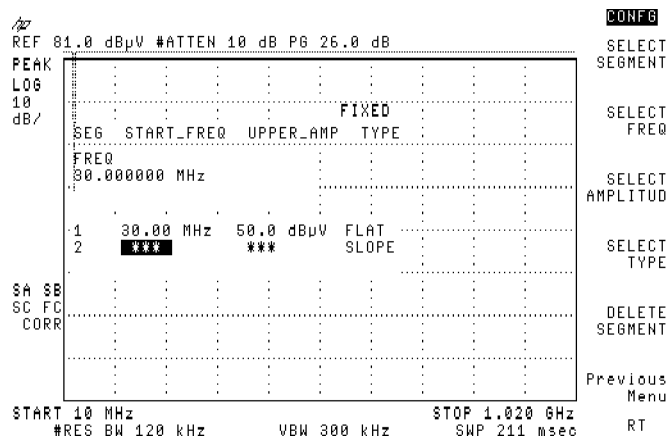

Figure 3-68. Selecting the First Amplitude and Type
15. Press **SELECT TYPE**, then **FLAT**. See Figure 3-68.